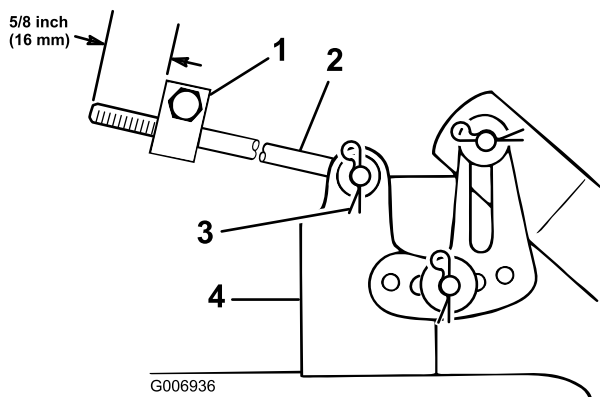

Figure 61
- Measure the length of the rod extending out of the front of the adjusting block on the sides of the chassis (Figure 61). If the rod length is not 5/8 inch (16 mm), remove the hairpin cotter and washer from the end of the rod (Figure 61) and turn the rod until it extends out 5/8 inch (16 mm).